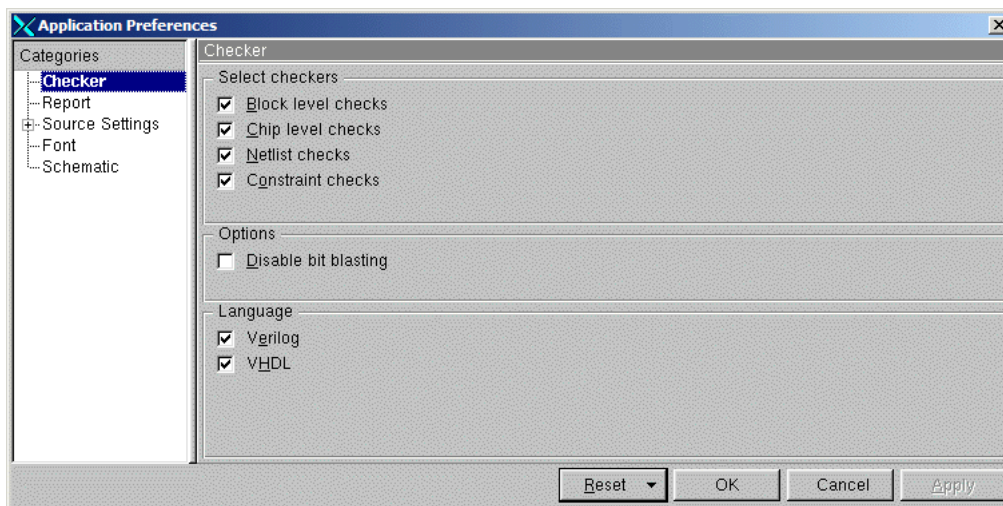

Figure 23: Checker Options in Application Preferences
1. From the main menu, choose **File > Preferences**. This brings up the Application Preferences window. From the list on the left, choose Checker (see Figure 23).
The initial values displayed in this tab are inherited from the Application Preferences window Checker settings (see Figure 23).